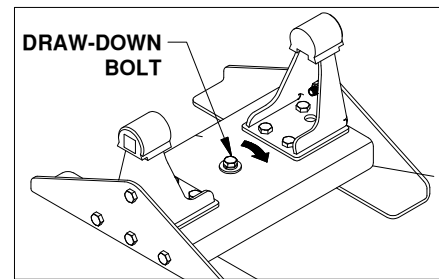

Figure D4. View of Companion base.
6. **Secure base.** Tighten the 1/2" x 3-1/2" draw-down bolt to **60 ft-lbs**, see Figure D4.